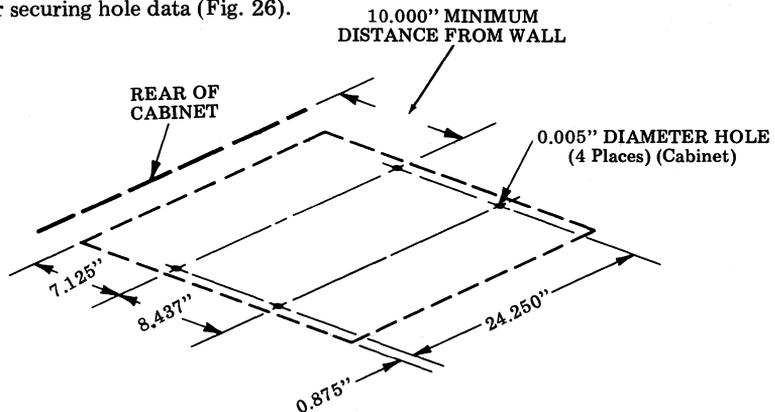

Fig. 26—Securing Hole Data
- (a) Cabinet floor securing hole data (Fig. 26).